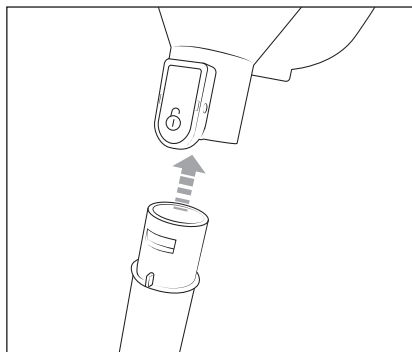

Fig. 1
- 1) Push the telescopic suction tube **16** onto the suction opening of the appliance until it clicks into place (see Fig. 1). Make sure that the locking mechanism is in the correct position.